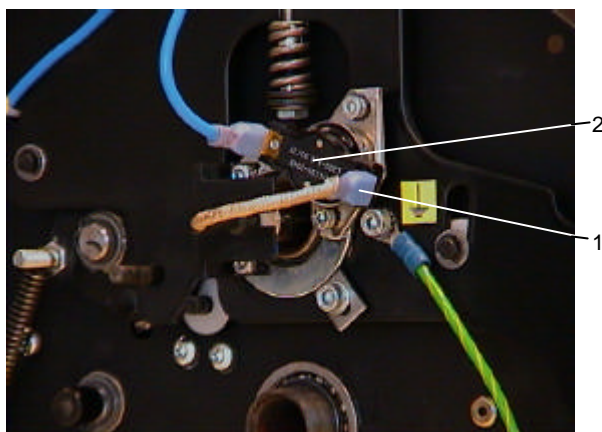

fig. 15
1. Remove, on the left-hand side of the machine, the blue fast-on connector (1) from the overtemperature switch (2). See figure 15.